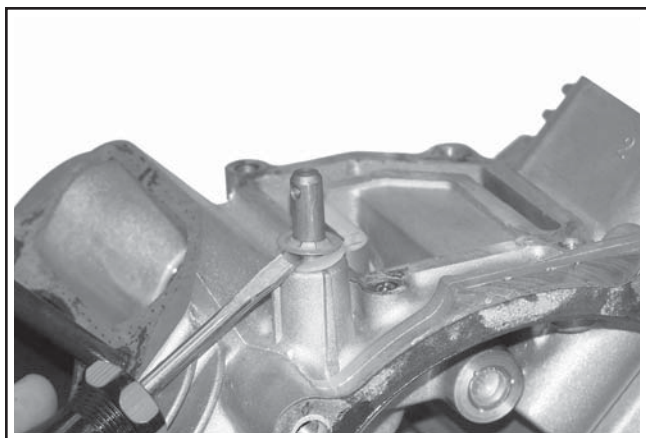

Figure 8-64. Removing Governor Cross Shaft Retainer.
1. Remove the retainer and nylon washer, from the governor cross shaft. See Figure 8-64.